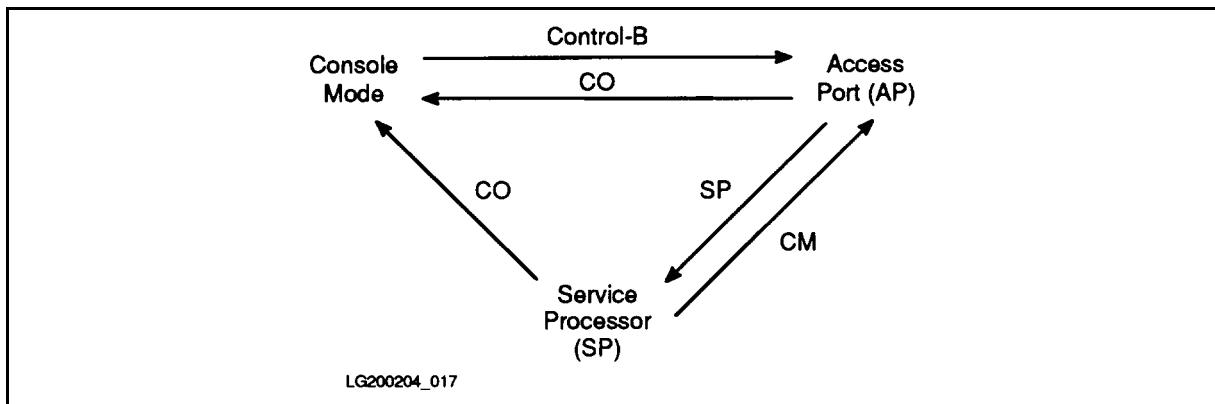

Figure 8-1. Console Mode, Access Port, and Service Processor
From the system console, you can access the commands available from the Access Port (AP) and the Service Processor (SP). Figure 8-1 summarizes how to change from one mode to another.